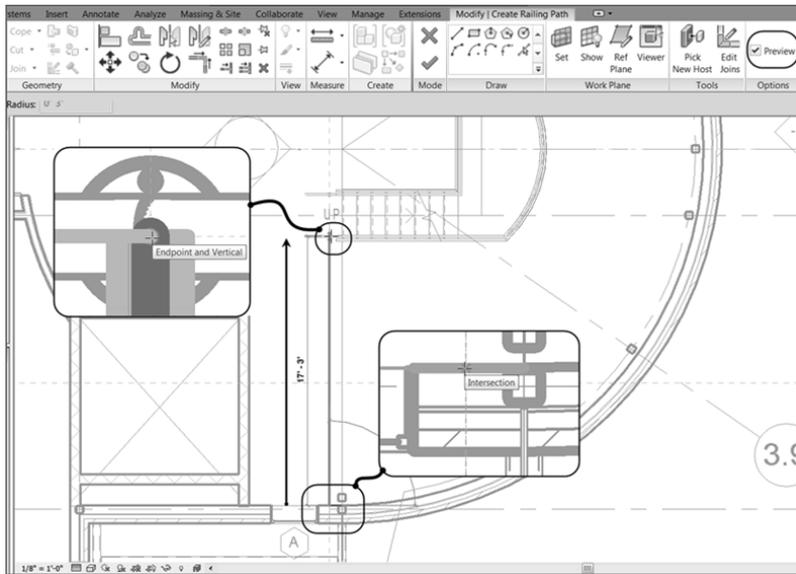

FIGURE 10.24: Sketching the path of the railing
10. Pick a point at the intersection of the reference plane and the south wall, as shown in Figure 10.24.
11. Click the Preview button on the Options bar (see Figure 10.24).
12. Pick the intersection of the reference plane and the ADA – Handrail (see Figure 10.24).